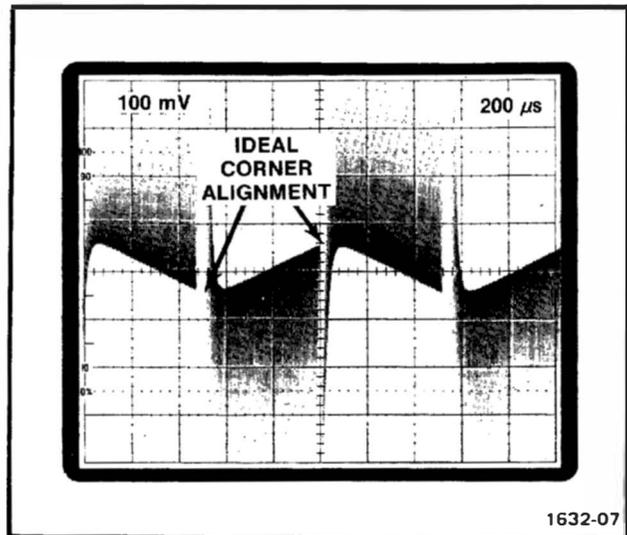

Fig. 2-1. Display of complex waveform (idealized) with 5 volt reference amplitude at 0.05 MHz, properly set.
e. Set the time-base triggering controls for a stable display; a crt display similar to Fig. 2-1 is obtained.
f. Check—that the corners of the idealized waveform are aligned as illustrated in Fig. 2-1, within one division. Disregard waveform tilt.